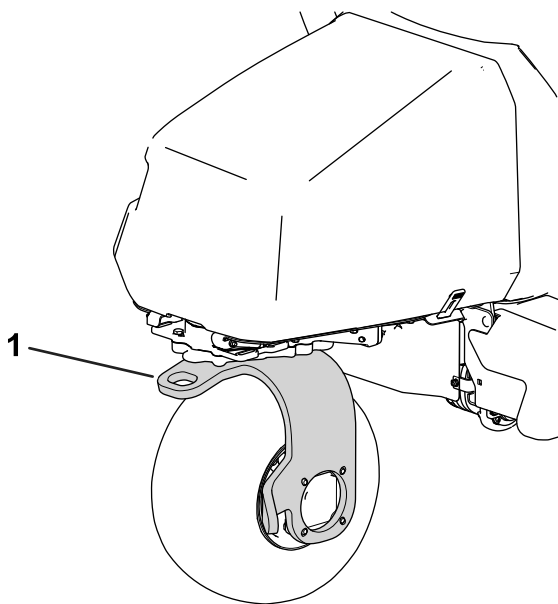

Figure 39
13. Use the rear castor fork to tow the machine (Figure 39).